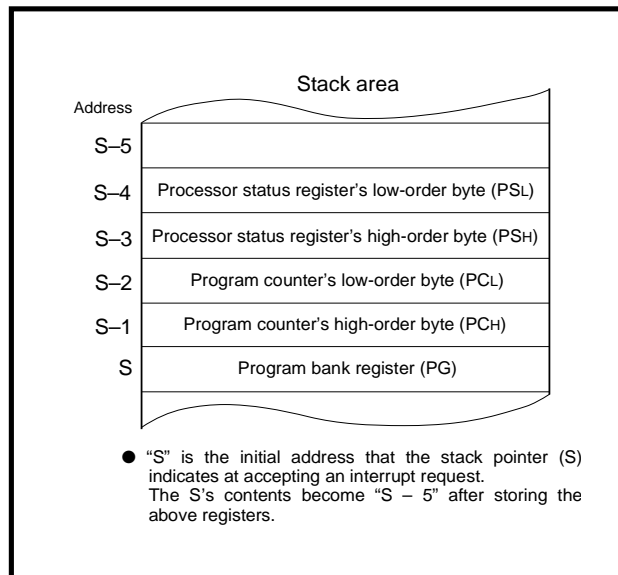

Fig. 2.1.2 Contents of stack area after accepting interrupt request
When an interrupt request is accepted, the microcomputer stores the contents of the program bank register (PG) at the address indicated by the contents of S and decrements the contents of S by 1. Then the contents of the program counter (PC) and the processor status register (PS) are stored. The contents of S after accepting an interrupt request is equal to the contents of S decremented by 5 before accepting of the interrupt request. (See Figure 2.1.2.)